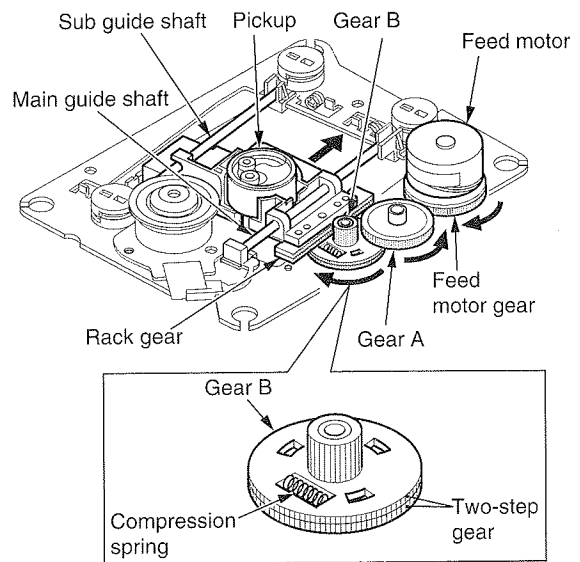

Fig. 1-8
1. Fig. 1-8 shows the pickup feed mechanism. When the feed motor turns clockwise, the gear B turns in the direction of arrow through the gear for the feed motor and the gear A, the rack gear screwed to the pickup drives, and the pickup slides from inside to outside. The gear B and the rack gear form the two-step gear construction. Combined with a compression spring, it eliminates backlash in the pickup moving direction.